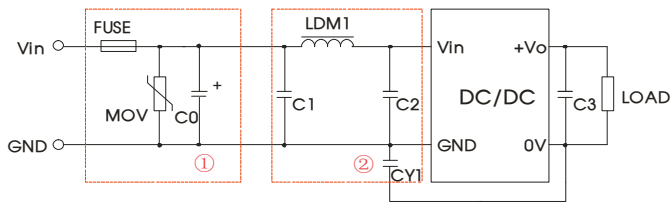

Fig. 3
Notes: Part ① in the Fig. 3 is used for EMS test and part ② for EMI filtering; selected based on needs.